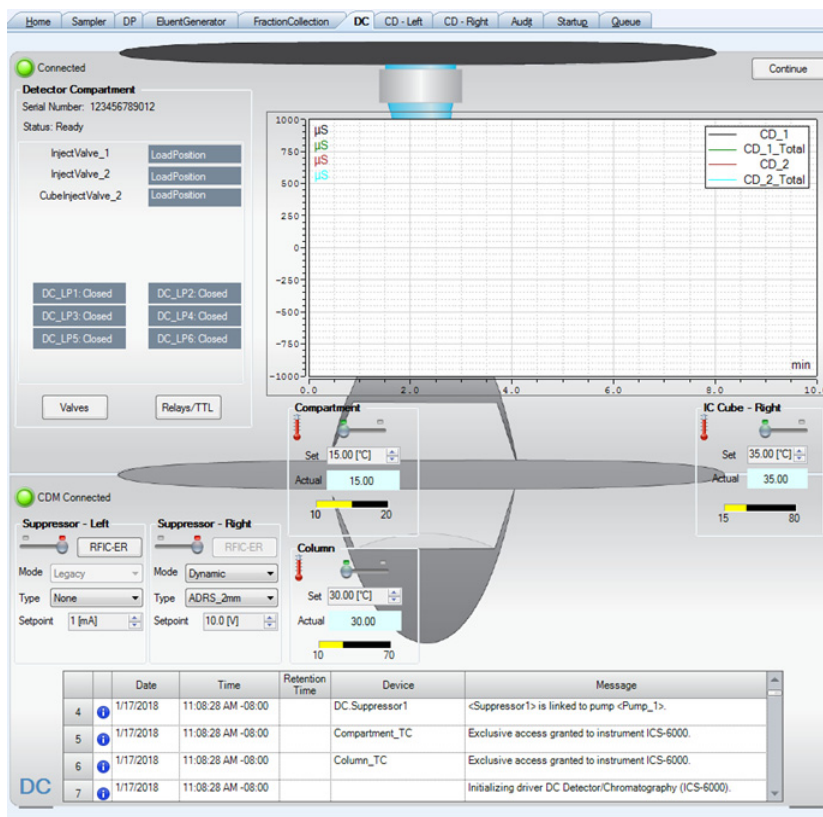

Figure 4-7. Example DC ePanel in Chromeleon
2. On the Chromeleon ePanel Set, click the **DC** tab to display the DC ePanel (see Figure 4-7).